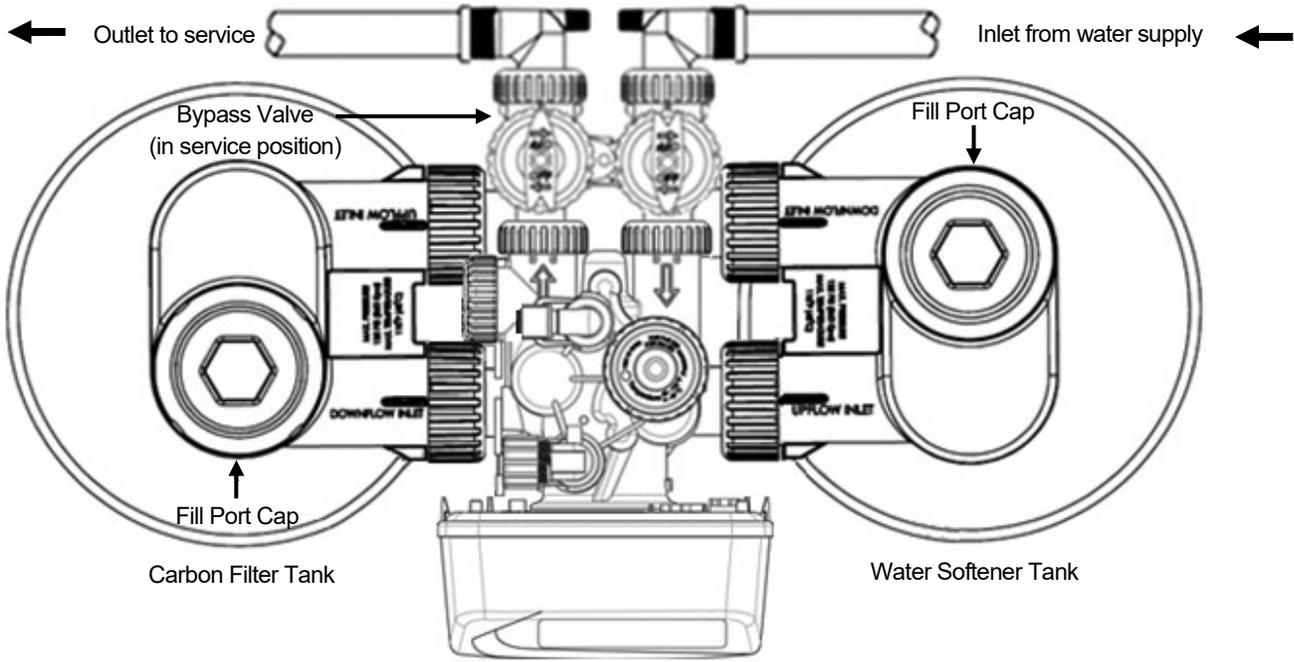

FIGURE 6a: Tank Positioning and Fill Port Location
- STEP 2:** Place the tanks in the upright position. Use the provided wrench to **remove the fill port caps from the filter and softener tanks** (See Figure 6a, page 7) by turning it counterclockwise.
- STEP 14:** Place the bypass valve in the “Service” position (refer to Figure 2, Page 5; Figure 6a, Page 7) and open main supply valve or turn on power to pump on private well systems. Allow the unit to fill with water and pressurize, then place the bypass valve in the “Bypass” position (refer to Figure 3, Page 5).